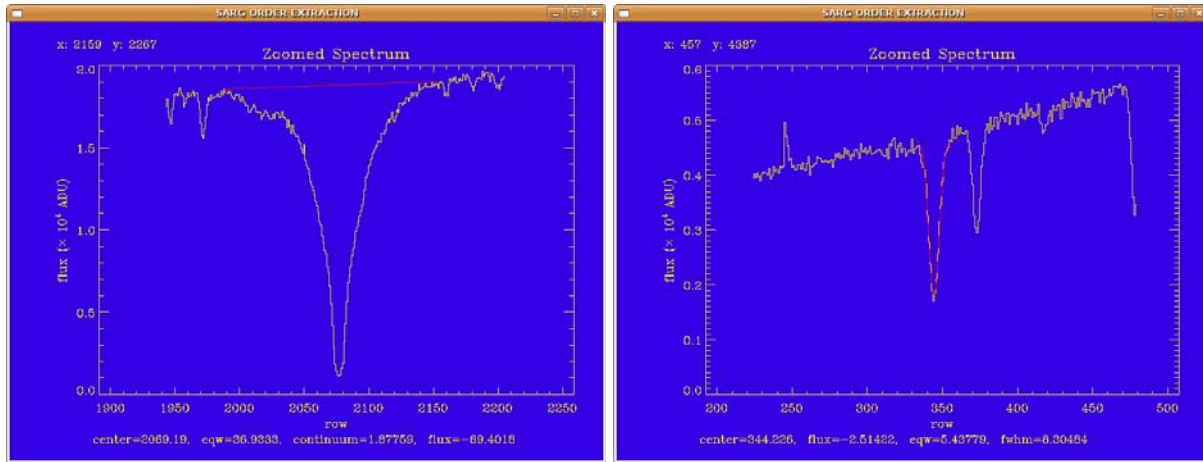

Figure 24. Left panel: Equivalent width of a line. Right panel: Gaussian fit of a line.
- e: allow to compute the equivalent width of a line. Press twice the key to define two points on the continuum (plotted then in red) to make the calculations. The results of the computation (Line centre, Equivalent width, Position of the continuum, and Flux) are displayed on the bottom of the plot (see Figure 24, left panel).
- k: allow to compute a Gaussian fit of a line. Press twice the key to define the two extremes between which perform the fit. The Gaussian fit is superimposed on the spectrum. The results (Line centre, Flux, Equivalent width, and FWHM) are then displayed on the bottom of the plot (see Figure 24, right panel).